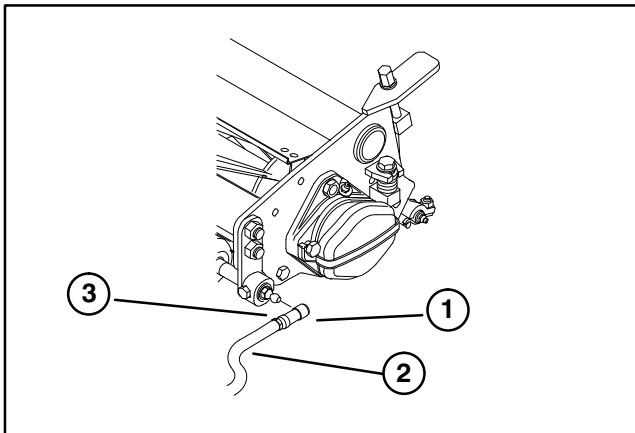

Figure 11
4. Slide the sleeve back on the ball joint and rotate the pull arm down so the socket fits over the ball stud. Release the sleeve so it slides over the stud and locks the assemblies together (Fig. 11).
6. Align the sockets in the ball joints so the open side of the socket is centered towards the ball stud. Tighten the jam nuts to secure the sockets in position (Fig. 11).